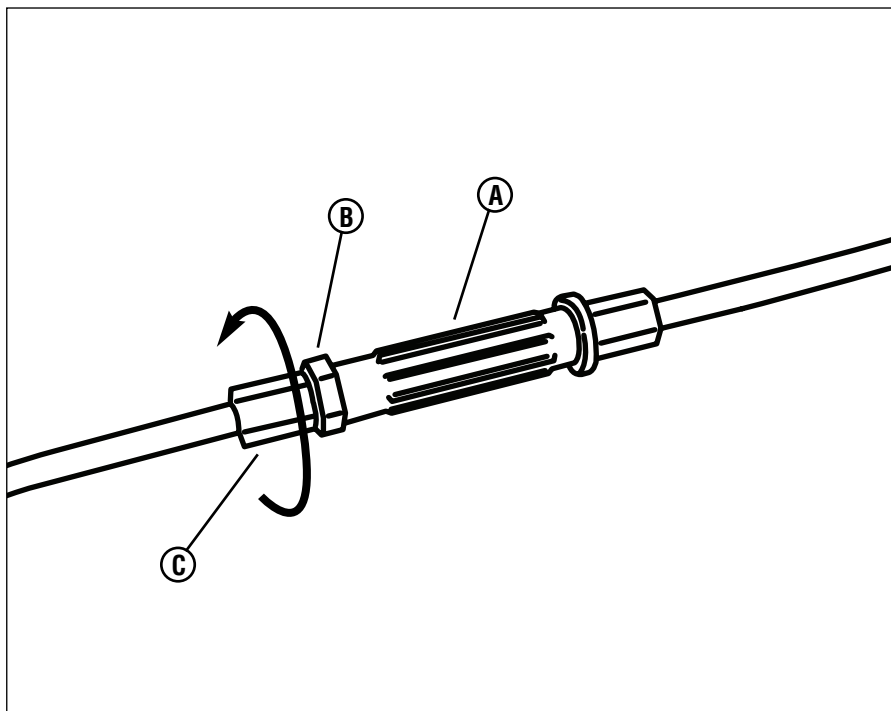

Figure 21: Adjusting the drive cable
1. If the drive system is slipping, loosen the jam nut (**B**, **Figure 21**) on the adjustment turnbuckle (**A**), and rotate the ferrule (**C**) one-half turn in the direction shown. Test the drive system and check for slippage.